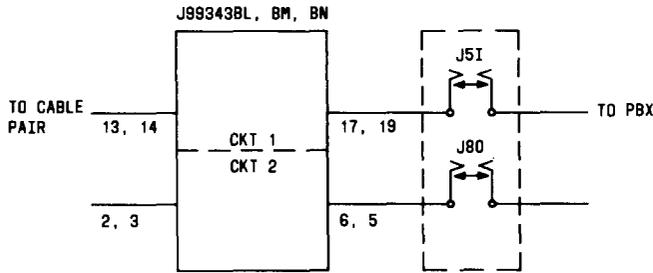

Fig. 4—Test Arrangement for J99343BL, BM, BN
**3.03** The adjustment of the impedance compensation networks is performed only when the circuit is out of service. Chart 1 gives the impedance adjustment for the J99343BL and Chart 2 for the J99343BM and BN. Figure 4 shows the test arrangement used for the impedance adjustment test. The tests require the following equipment or equivalent: